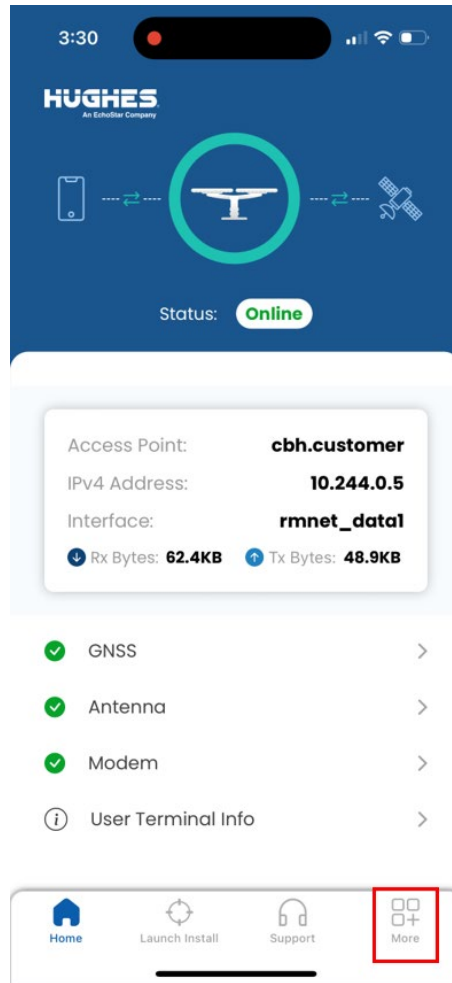

Figure 132: More button on dashboard
3. The dashboard screen appears, as shown in Figure 132.
4. From the dashboard click the **More** button to launch the screen shown in Figure 132.